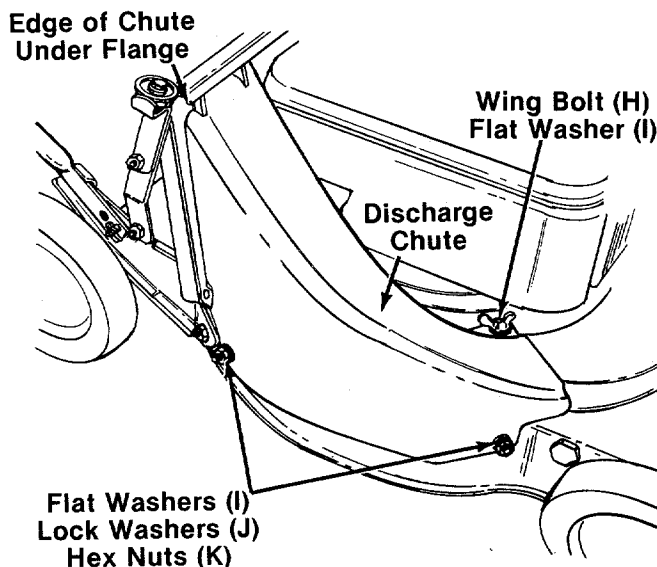

FIGURE 17.
- a. Slide the top edge of the discharge chute under the flange on the catcher panel. See figure 17.
- b. Place the two holes on the bottom edge of the discharge chute over the two bolts which protrude from the deck. See figure 17.
- c. Attach the front of the discharge chute to the deck with one flat washer (I) and wing bolt (H).
- d. Secure the bottom of the discharge chute to the deck with flat washers (I), lock washers (J) and hex nuts (K). See figure 17.